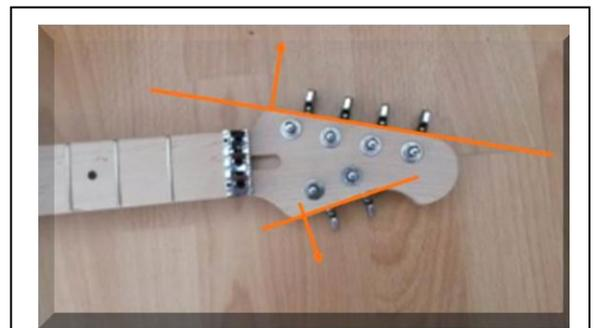

Figure 2.7 Tuner Alignment
1. Insert tuners, 6 each (item #8 on Material List), into the Neck Headstock. Ensure that the Tuner shafts are perpendicular to the Headstock (Fig. 2.7);